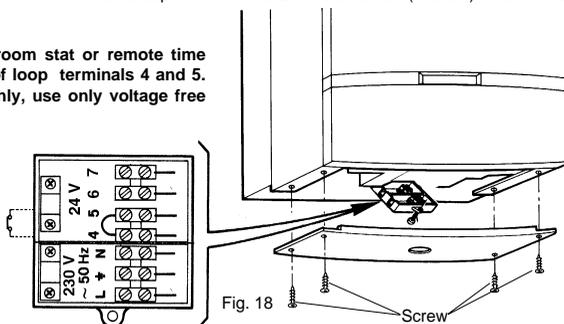

Fig. 18
Electrical installation must be carried out by a competent electrician. The appliance is to be connected to a 230 V ~ 50 Hz supply (see fig. 18). The supply fuse rating is 3A. The terminals are accessible after removing the white base plate and single screw securing the terminal cover (see fig. 18).
7.2 Room Thermostat (fig. 18) (or remote time clock connection)
7.3.1 To be wired to terminals 7 and 8 on the appliance connector box (see fig. 18), low voltage twin wire can be used.